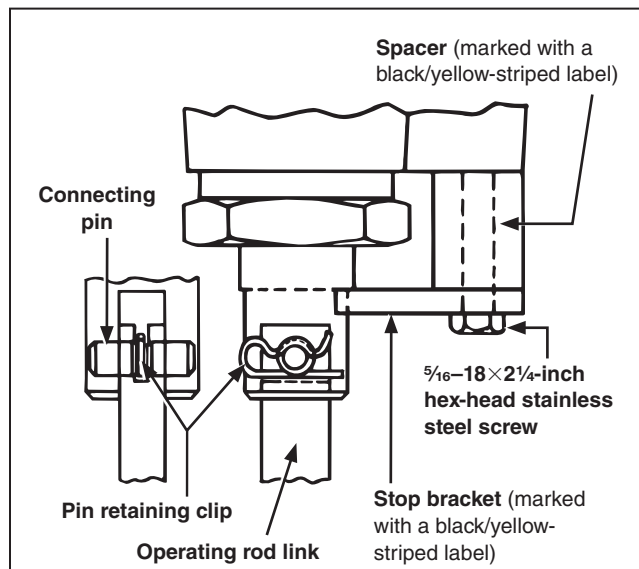

Figure 17. Connecting the interrupter to the operating rod link.
- (h) Insert the connecting pin retained from Step 3(c) on page 19 into the coupling and operating rod link. See Figure 17. Loosen the $\frac{5}{16}$ -18 \times 2 $\frac{1}{4}$ -inch hex-head stainless steel screw indicated in Figure 17 and withdraw it approximately $\frac{1}{8}$ -inch (3 mm) so the connecting pin can be inserted. **Do not remove the stop bracket screw at this time.**
- (i) Insert the pin retaining clip as indicated in Figure 17. Make sure the clip is positioned as shown.
- (j) Remove and discard the $\frac{5}{16}$ -18 \times 2 $\frac{1}{4}$ -inch hex head stainless steel screw, stop bracket (marked with a black/yellow-striped label), and spacer (marked with a black/yellow-striped label) illustrated in Figure 17.
- The interrupter coupling has been connected to its insulated operating rod link (See Figure 17 on page 20.)